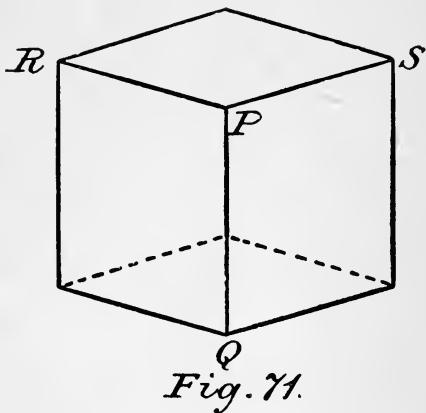

Fig. 71.
70. The elevation then appears as at *F*, in which *a b* and *c d* represent the faces of the cube, and appear of equal width. If, now, we take our point of view not only to the right of the object, but also higher, the vertical lines will be foreshortened also, the upper surface will come into view, and the cube will appear as in Fig. 71. If the point of view be taken still higher, the edge *P Q*